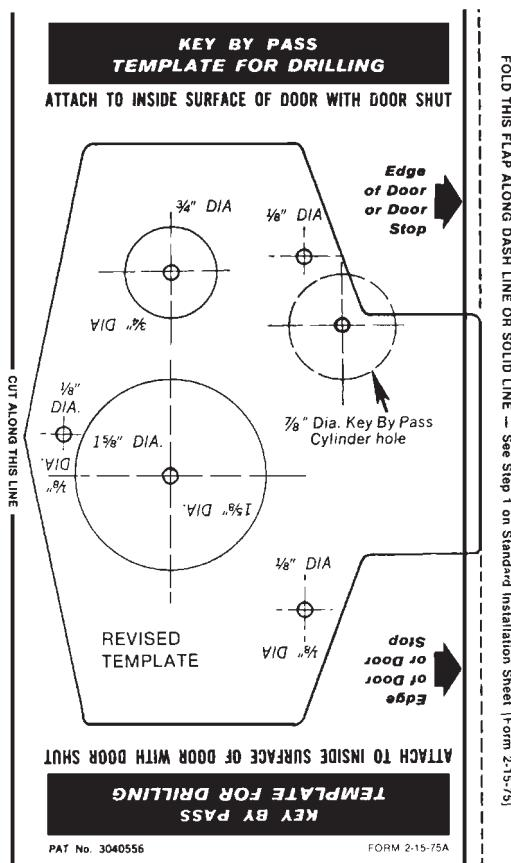

Figure 18.19 Drilling template for the key bypass feature. (Simplex Access Controls Corp.)
- Use the template (Fig. 18.19) for positioning a $\frac{3}{8}$ -inch-diameter hole for the key lock cylinder.